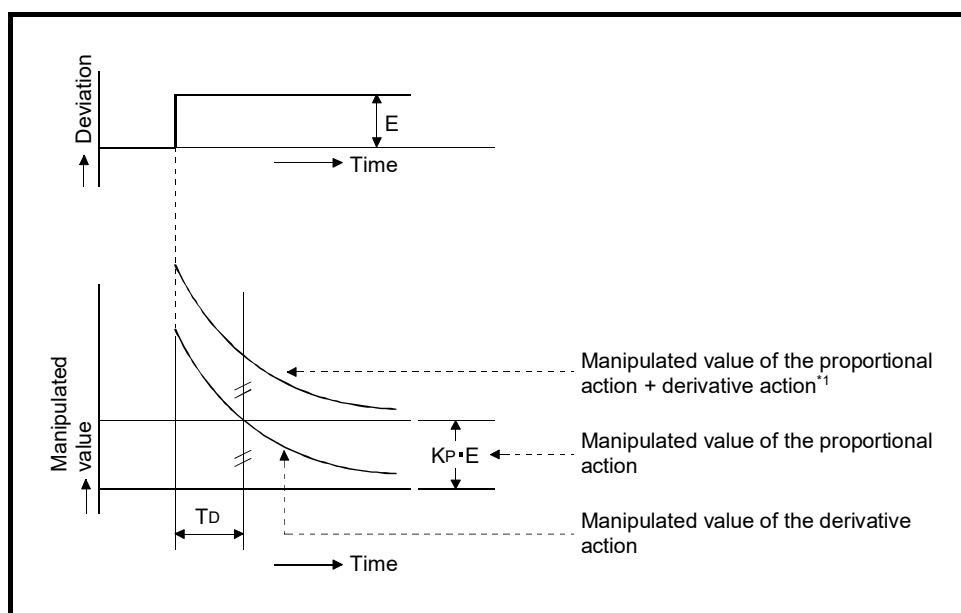

Fig. 1.9 Derivative action for step response
- (2) In the derivative action, the time from the deviation occurrence until the manipulated value of the derivative action becomes that of the proportional action is called the derivative time, and is indicated by T_D .
- (3) Figure 1.9 shows the derivative action for the step response with a constant deviation.
- (4) The derivative action is used in the PID action in combination with the proportional and integral actions.